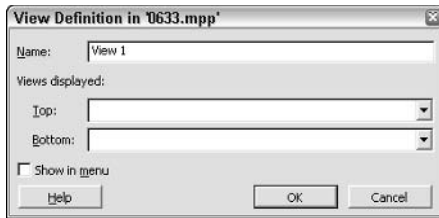

Figure 7-14: In the combination view version of the View Definition dialog box, select the two views to place on-screen.
3. Choose the Combination view option to display the dialog box shown in Figure 7-14.